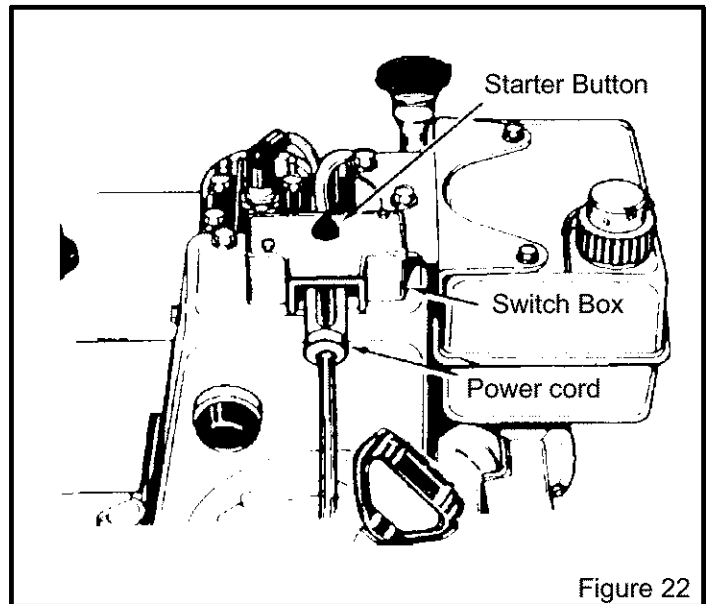

Figure 22
COLD ENGINE START (ELECTRIC STARTER) (SEE NO TAG AND FIGURE 22)
5. Connect POWER CORD to SWITCH BOX (Figure 22).
- a. Push STARTER BUTTON (Figure 22) to engage starter motor and crank engine.
5. Connect the POWER CORD to the SWITCH BOX (Figure 22).